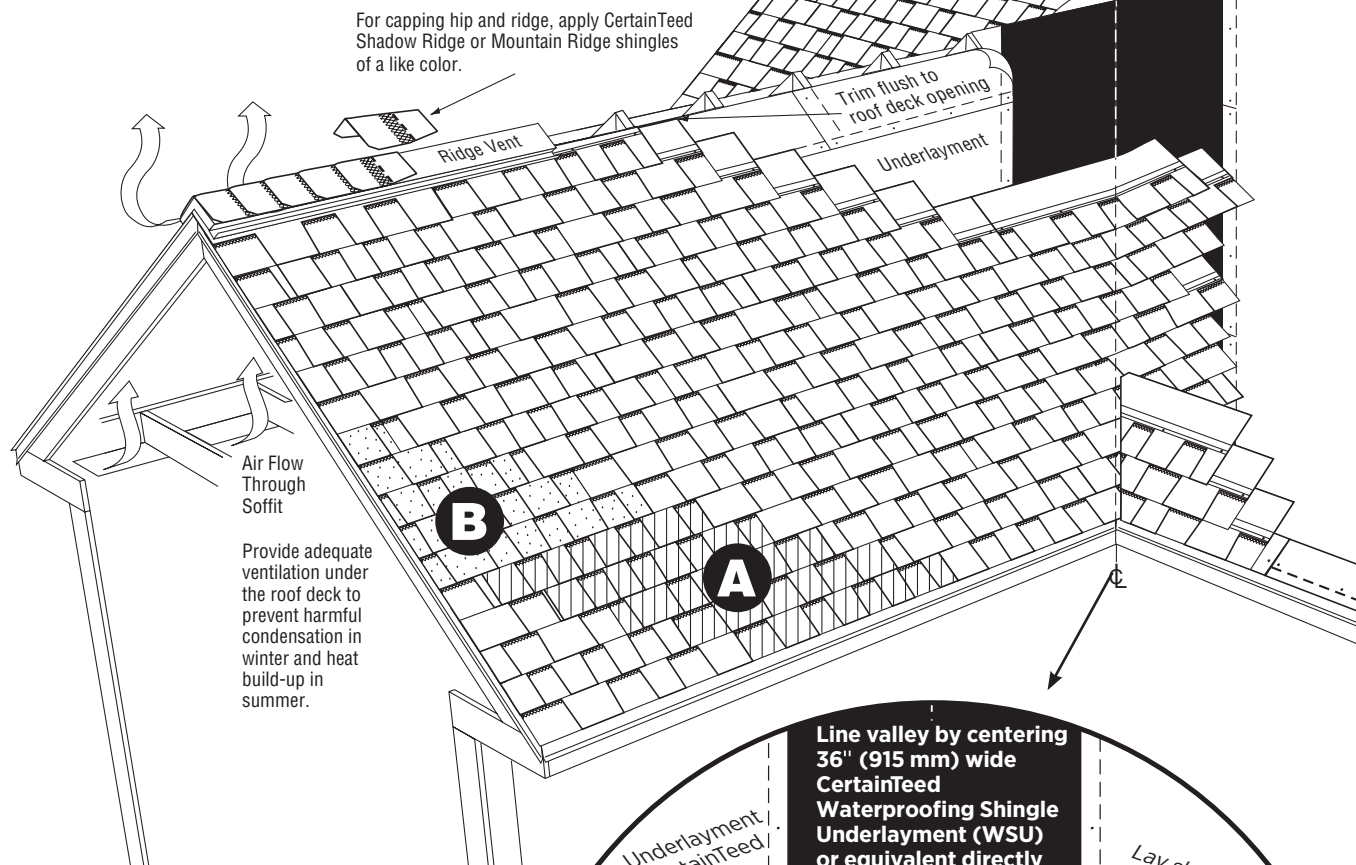

Figure 12-7: "Five-Course Diagonal Method" installation schematic.
2. Fill-in courses across the roof in a stepped diagonal fashion using full shingles. (Figure 12-7, A). Do not run courses straight across.
1. Beginning again with a full shingle, repeat the five-course pattern up the left rake.(Figure 12-7, B).